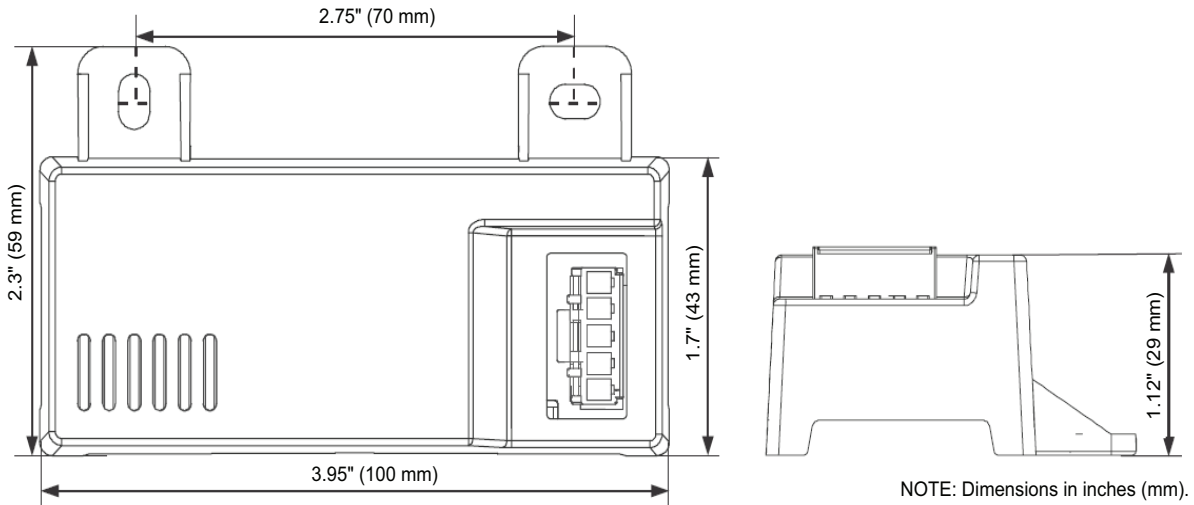
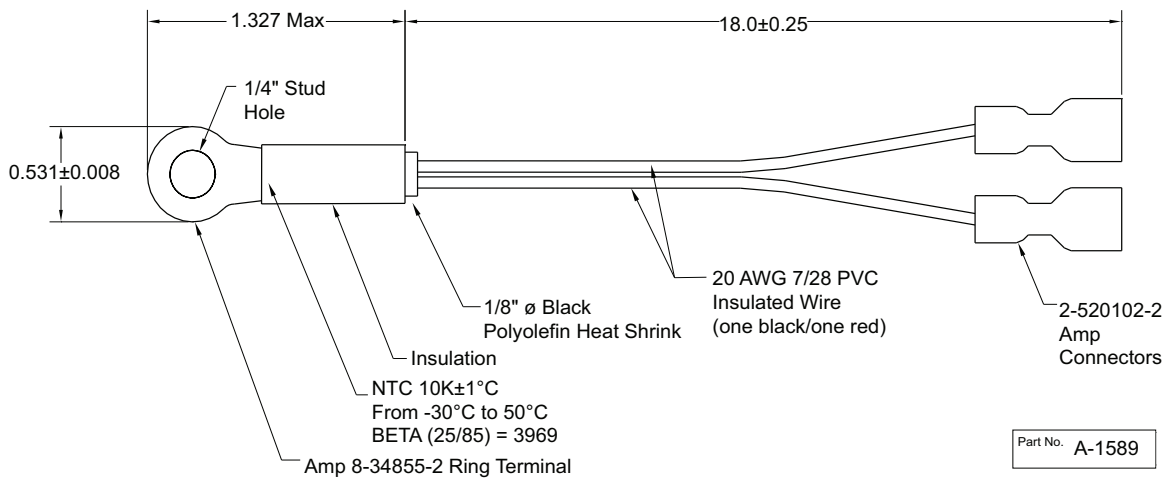
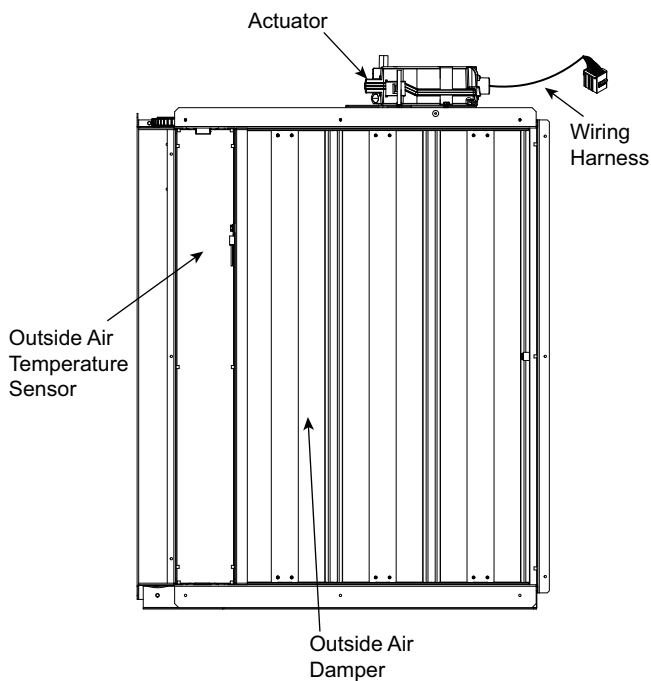

Fig. 76 – HH57LW001 Dimensional, Connection and Switching Information
Fig. 77 – HH79NZ039 Dry Bulb and Mixed Air Sensor Wiring
Fig. 78 – EconomizerONE Component Locations (CRECOMZR108A00 Shown)
When using the HH57LW001 enthalpy sensor (see Fig. 76) for outside air changeover, the existing HH79NZ039 dry bulb sensor (see Fig. 77) must be removed. The enthalpy sensor will be mounted in the same location as the dry bulb sensor (see Fig. 78). When the enthalpy sensor's OA (Outside Air) temperature, enthalpy, and dew point are below their respective setpoints, the outside air can be used for free cooling. When any of these are above the setpoint, free cooling will not be available. Enthalpy setpoints are configurable and create an enthalpy boundary according to the user's input. For additional details, see Fig. 79-80 and Table 30.
The optional enthalpy control sensor (P/N: HH57LW001) communicates with the POL224 economizer controller using the 5-wire harness, 48TC005213. The HH57LW001 sensor can be used as a single outside air enthalpy, a differential return enthalpy, or a differential return temperature sensor. Refer to the base unit control wiring diagrams found earlier in this book to wire the HH57LW001 enthalpy sensor for each option. Use Fig. 76 and Table 32 on page 61 to locate the wiring terminals for each enthalpy control sensor.
Economizers are shipped standard with an HH79NZ039 outside air dry bulb sensor (see Fig. 77). System default setting (high temp limit) is 63°F (17°C) and has a range of 48°F to 80°F (9°C to 27°C). Sensor is factory installed on economizer.
If installing the optional HH57LW001 enthalpy sensor, the HH79NZ039 dry bulb outside air sensor must first be removed. Wire sensor to harness 48TC005213 and the (5) wires from the harness to the EconomizerONE harness in the return air chamber. Harness 48TC005213 has a 5-pin plug that connects directly to the HH57LW001 enthalpy sensor. Refer to the base unit control wiring diagrams earlier in this book for wiring connections. Refer to Fig. 76 and Table 32.